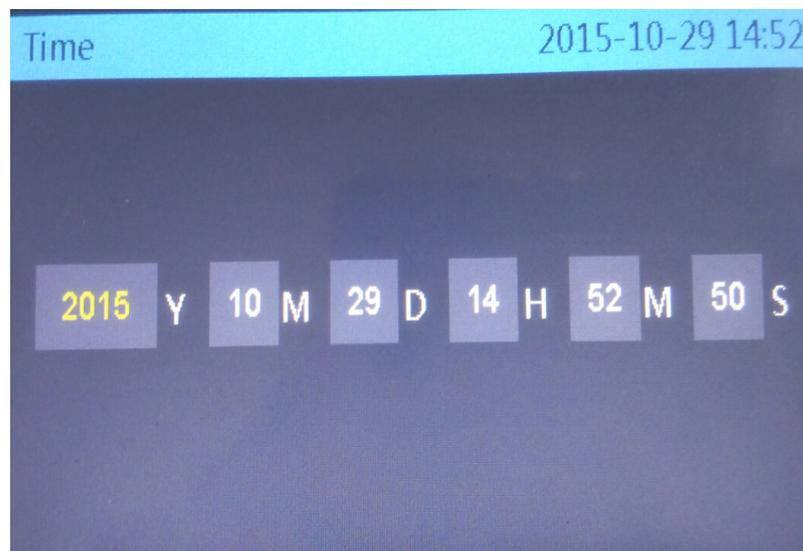

Figure 9 Time setting
“Time” is to adjust date and time (see Figure 9). Press Shift button (1) to navigate through the desired parameters from Year → Month → Day → Hour → Minute → Second. Press left (3) and right button (4) to adjust the value.